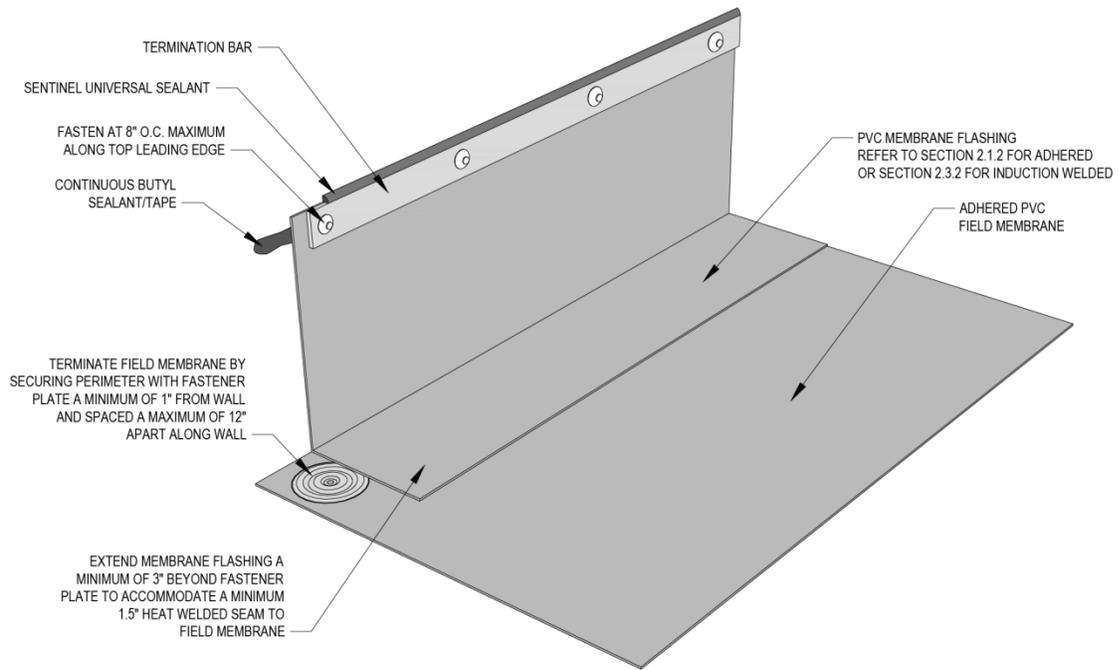

Figure 2.1.1a Adhered PVC Field Membrane at Wall/Curb With Horizontal Perimeter Fastening
- Secure the membrane to the deck or vertical surface at the base of the upstand. Refer to Figures 2.1.1a through 2.1.1i.